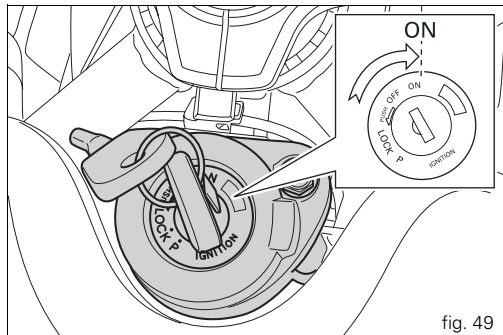

fig. 49
1) Move the ignition key to ON (fig. 49). Make sure both the green light N and the red light on the instrument panel come on.